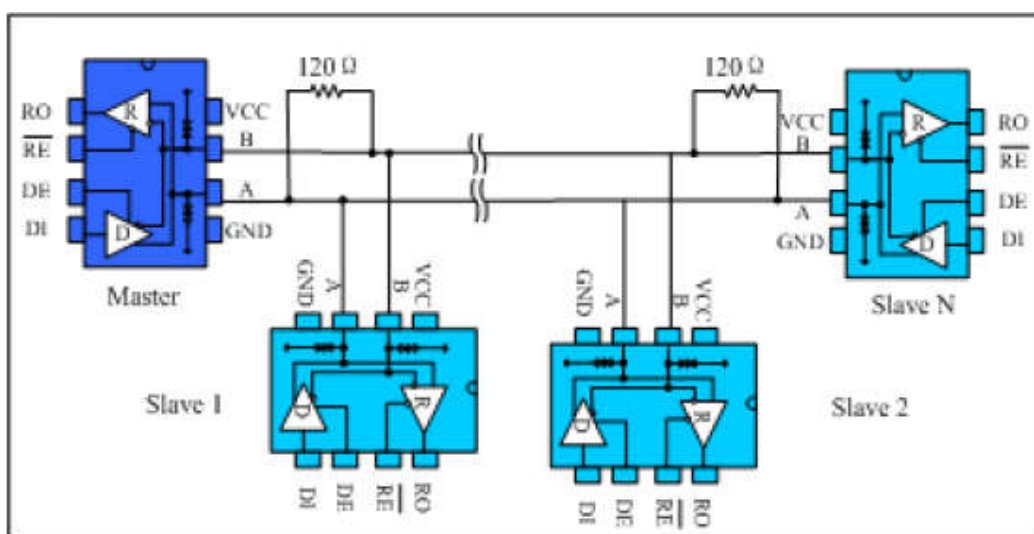

Fig. 9 Bus-type RS485 half-duplex communication network
**4.1 Bus networking:** The ST3485E RS485 transceiver is designed for bidirectional data communication on multi-point bus transmission lines. Figure 9 shows a typical network application circuit. These devices can also be used as linear repeaters with cables longer than 4000 feet. In order to reduce reflections, terminal matching should be done at both ends of the transmission line with their characteristic impedance, and the length of the branch wires other than the main line should be as short as possible.